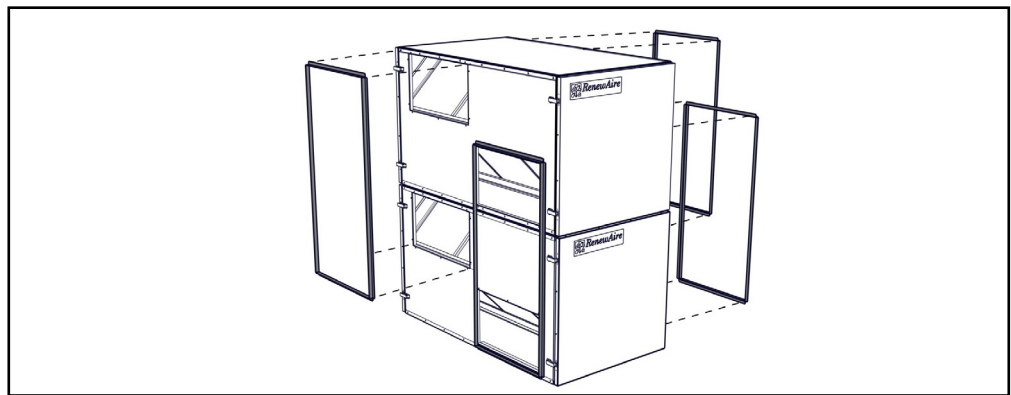

FIGURE 2.4.1 ATTACH FLANGES
2. Fabricate and attach four sets of flanges on the sides of the stacked cabinets. Each flange will enclose one opening of each cabinet. See Figure 2.4.1.